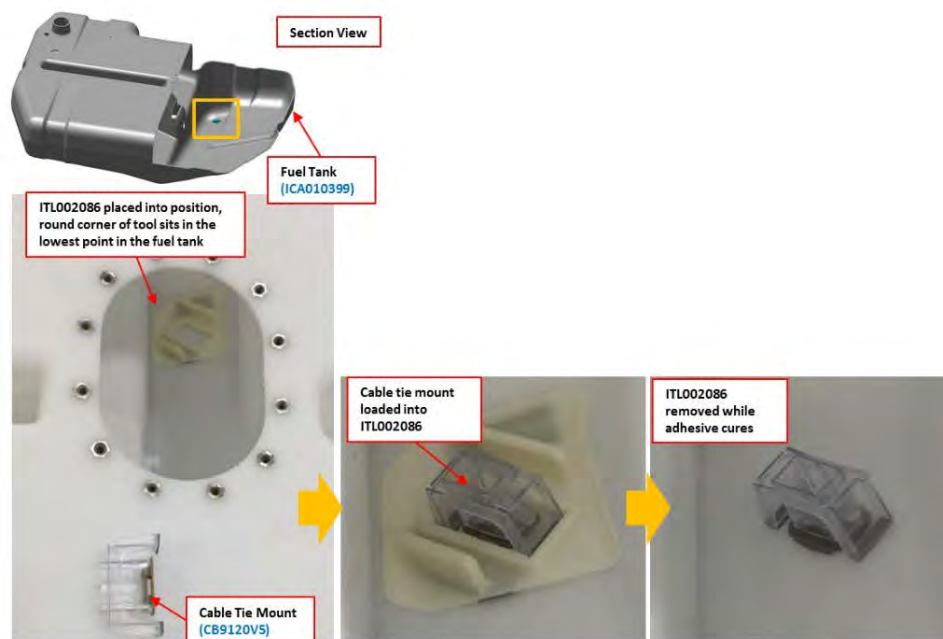

FIGURE 10-9
- a. Mark the location of the CABLE TIE ANCHOR MOUNT as shown in Figure 10-9 in a similar orientation as the ITL tool.